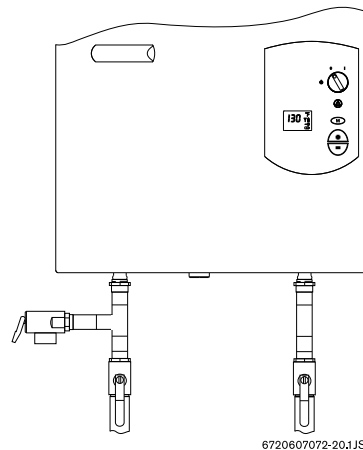

Fig. 26 Plumbing Connections and Pressure Relief Valve
If the cold and hot connections to the heater are reversed, the heater will not function. Be certain there are no loose particles or dirt in the piping. Blow out or flush the lines before connecting to the water heater. Full port valves should be installed on both the cold water supply and hot water outlet lines to facilitate servicing the heater (see Fig. 26). For installation on a private well system with the use of a pressure tank, the lowest pressure range setting recommended is 30-50 psi (2.07 and 3.45bar).
A listed pressure relief valve supplied with the heater must be installed at the time of installation. No valve is to be placed between the PRV and the heater. No reducing coupling or other restriction may be installed in the discharge line. The discharge line must be a minimum of 4" above a drain and installed such that it allows complete drainage of both the PRV and the line. The location of the PRV must be readily accessible for servicing or replacement, and be mounted as close to the water heater as possible. See Fig. 26. To install the PRV, a suitable fitting connected to an extension on a "T" fitting can be sweated to the hot water line. Support all piping.
- ▶ **2.** The gas valve must be shut off by putting the ON/OFF switch to position (0). Wait five (5) minutes to clear out any gas. If you smell gas, STOP! Follow "B" in the safety information above. If you do not smell gas, go to the next step.
- ▶ **4.** Set the ON/OFF switch to the (I) position. In this position, the water heater is ready to use.
**NOTE: on a first time initial installation or after gas line work has been done, existence of air in the gas line will cause ignition delay when the hot water is turned on. This will result in an error (EA) on the units display screen. This is normal. When this occurs, leave the hot water running and wait 3-5 seconds, then reset the unit (Fig. 26, pos. 2). Wait for (EA) to disappear. The heater will begin to attempt ignition again, if the (EA) reappears then repeat this same process until all air has been bled from the gas line.**